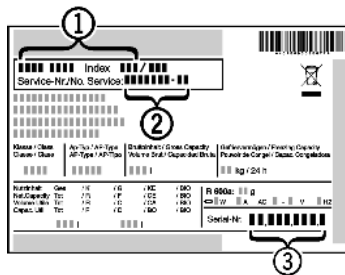

Fig. 42
- ▶ Read off the appliance name Fig. 42 (1), service no. Fig. 42 (2) and serial no. Fig. 42 (3) from the model plate. The model plate can be found on the inside of the appliance on the left.